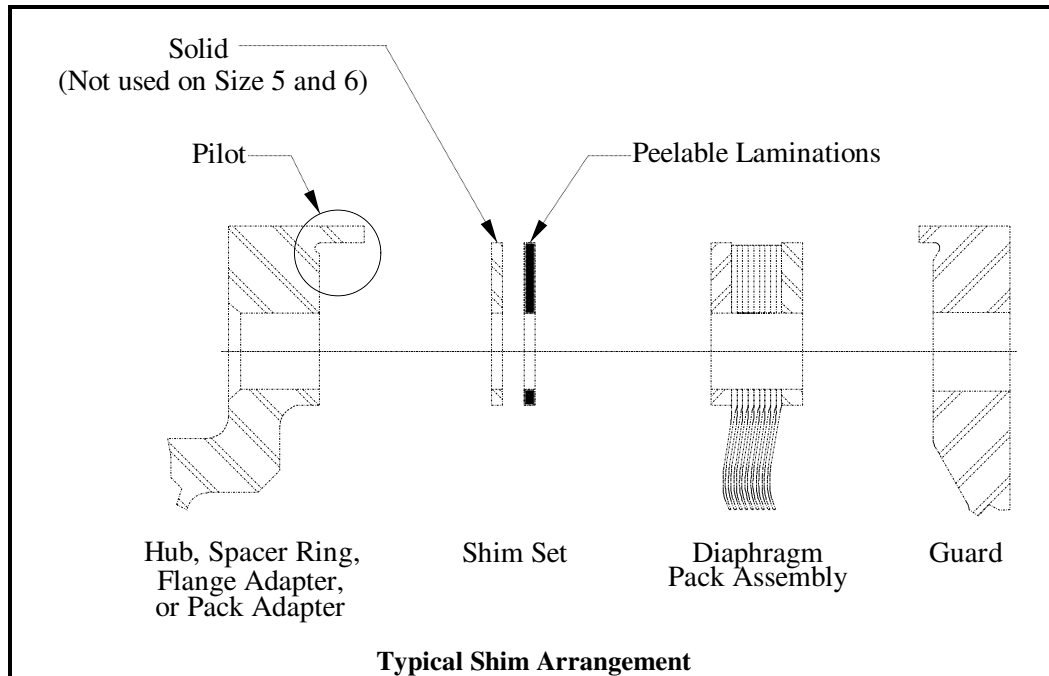
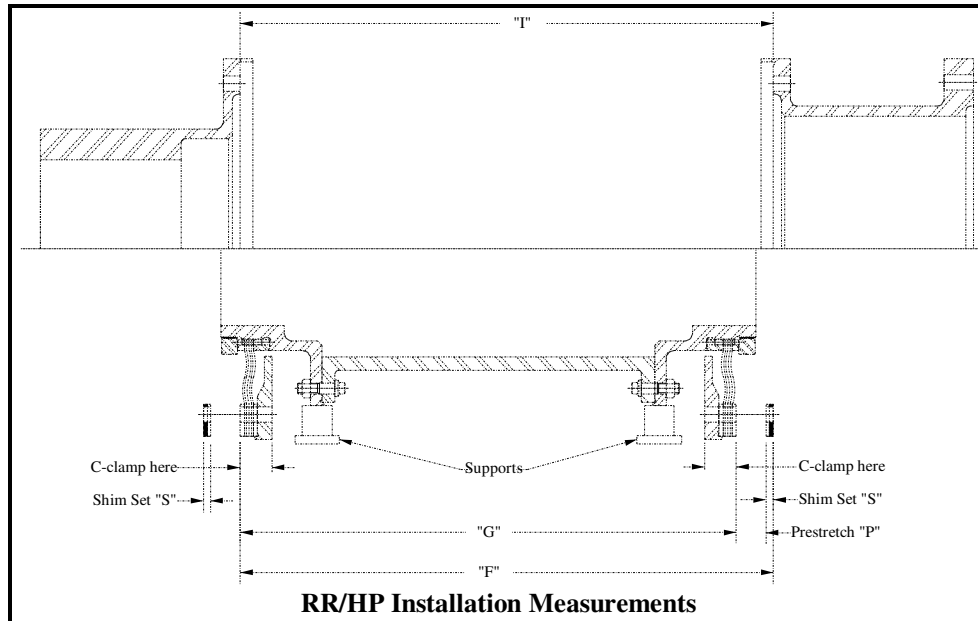

Figure 4-6
Figure 4-7
Shims are provided to adjust the length of the coupling at installation to accommodate variations in flange-to-flange dimensions ("I" dimension as shown in Figure 4-7 through 4-10) within the limits specified on the Ameridrives sales drawing. The coupling spacer is intentionally made short by the thickness of one shim set. This allows for flange-to-flange adjustability equivalent to the thickness of one shim set in either direction. Two shim sets are normally provided (see Figure 4-6). Refer to the Ameridrives Sales Drawing for location and quantity of shims.
- 4.4.1.1 Measure and record, on the worksheet in Paragraph 4.4.5, the installation Length "I" (distance between mounted flange faces) at four (4) places approximately 90° apart (see Figure 4-7).
- 4.4.1.2 Assemble the diaphragm pack sub-assemblies onto the spacer taking care to realign the matchmarks and end identification letters. Install a minimum of four (4) bolts approximately 90° apart through each flange and tighten the bolts evenly in a criss-cross pattern to seat the pilots. Support as shown in Figure 4-7.
- 4.4.1.4 Measure and record, on the worksheet in Paragraph 4.4.5, the coupling free length "G" (distance between diaphragm pack sub-assembly outer diaphragm pack faces) at four (4) places approximately 90° apart. It is recommended that C-clamps be used to compress the diaphragm pack at the location the measurements are being taken (see Figure 4-7).